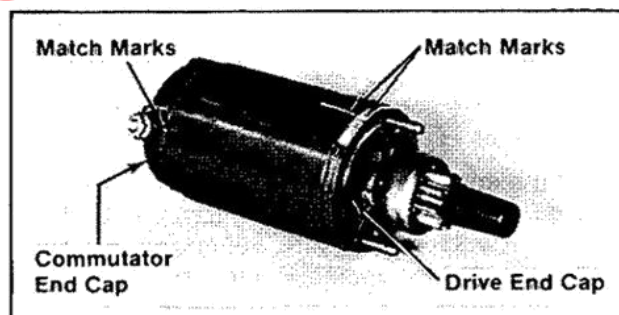

Figure 8-18. Starter Assembly Match Marks.
2. Install the thrust washer and drive end cap. Make sure the match marks on end cap and frame are aligned. Refer to Figure 8-18.
5. Make sure the match marks on end cap and frame are aligned. Refer to Figure 8-18. Install the thru bolts and tighten securely.